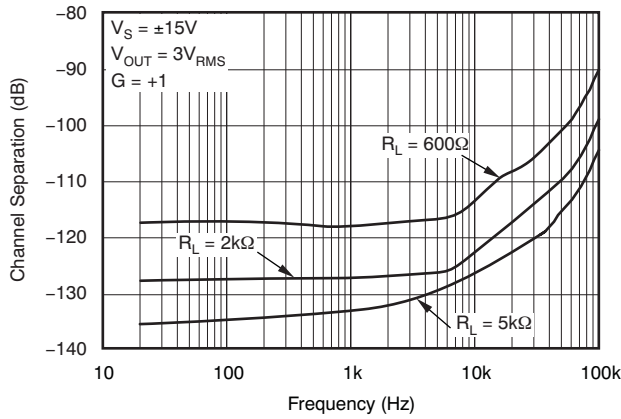

**Figure 12.**
(1) For measurement bandwidth, see Figure 7 through Figure 12.